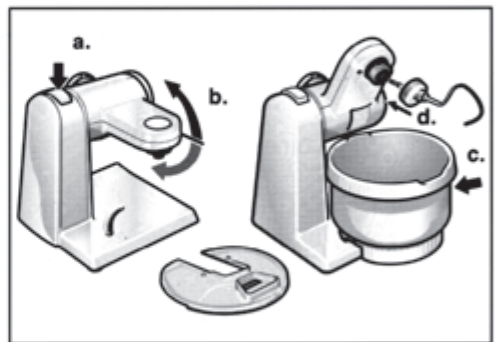

Figure 4
2. The dough hook is used in mode 1, see table 1. To place the mixing bowl and insert the dough hook the arm must be moved as shown in figure 4:
2. Both the stirring whisk, or beating whisk is used in mode 1, see table 1 and figure 4. Follow the same step as shown in figure 4, but for 4d insert the whisk you wish to use rather than the dough hook and its deflector.